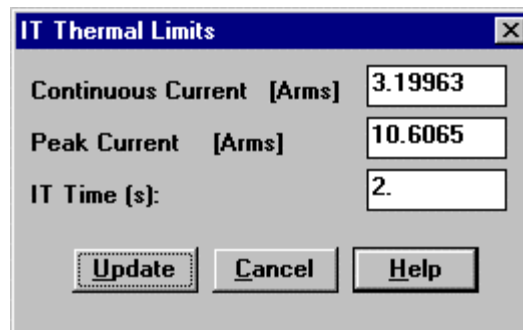

FIGURE 4.47 IT Thermal Limits Dialog Box
The *IT Thermal Limits* dialog box (FIGURE 4.47) is used to configure three (3) parameters that control current in the system. Access the *IT Thermal Limits* dialog box under the **Set-up** option in the **Drive** menu.